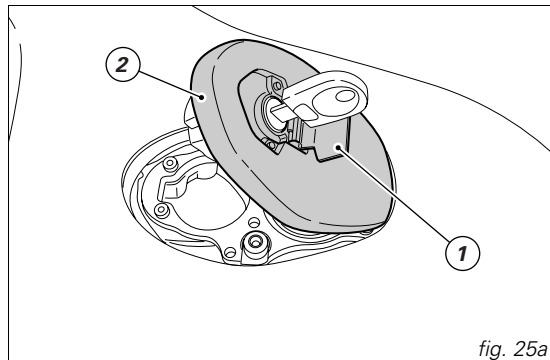

fig. 25a
Lift the protection lid (1) and fit the ignition key into the lock. Turn the key clockwise 1/4 turn to unlock. Lift the plug (2, fig. 25a).